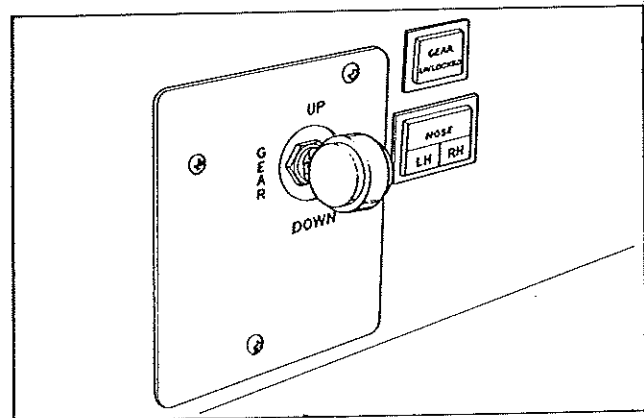
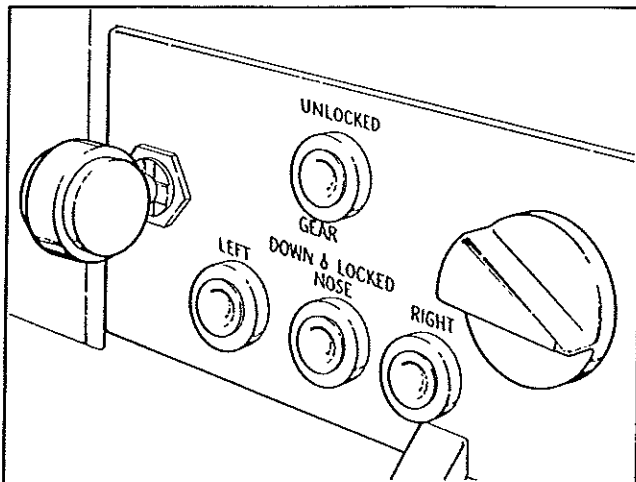

Figure 2 Landing Gear Switch and Module Type Indicator Lights
Figure 3 Indicator Lights—Individual Bulb Type
The landing gear switch (Figure 2) is a three position switch which is operated by being pulled out and moved up or down. A wheel shaped knob is provided for easier gripping. The top position (UP) is for raising the gear, the lower position (DOWN) is for extending the gear, and the center position (OFF) is a neutral position.
There are four landing gear indicator lights (Figure 2); one upper red one and three lower green ones. The upper light glows when any or all of the gear are in an unlocked position. Each gear is indicated by one of the green lights, which glow when the gear is fully extended and locked. All lights out means the landing gear is in the up position.
Current 400 series and the 340 have modular type indicators as shown in Figure 2. Earlier 400 series and the 310 have individual lights as shown in Figure 3. Both types of lights serve the same function, and both types are activated by position indicators on the gear.